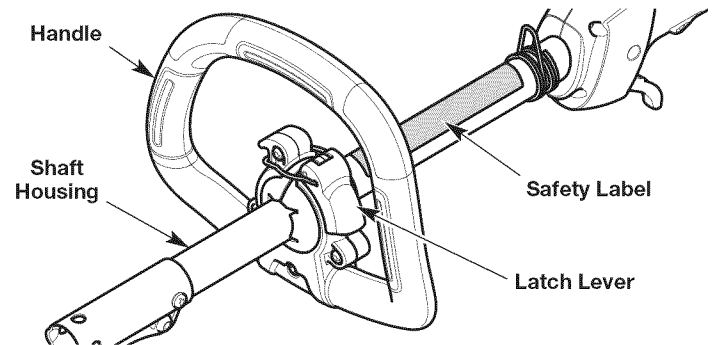

Fig. 7
7. Hold the unit in the operating position (Fig. 19). Move the handle up or down the shaft housing to a comfortable location (Fig. 7). Make sure the handle is positioned beyond the end of the safety label (Fig. 7).
1. Flip the latch lever up to loosen the handle (Fig. 7).
2. Hold the unit in the operating position (Fig. 19). Move the handle up or down the shaft housing to a comfortable location (Fig. 7). Make sure the handle is positioned beyond the end of the safety label (Fig. 7).